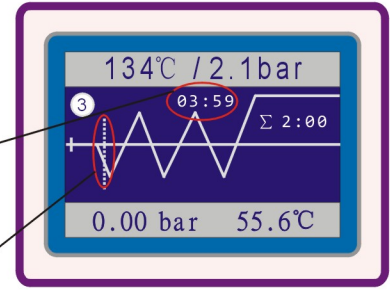

Fig.6.4-2
(2)**First times Pre-vacuum stage:** when the temperature over than 40°C, the sterilizer will start to do vacuum and the control system will open the vacuum pump solenoid valve(Ev4) . LCD show 03:59 countdown. if within 4 minutes, the vacuum value of less than Pv (factory default setting 23L:Pv=-0.75bar; 18L:Pv=-0.80bar) value, there will be alarm E12 or the vacuum value reaches Pv value in advance, sterilization program into heating stage in advance. (Fig.6.4-2)